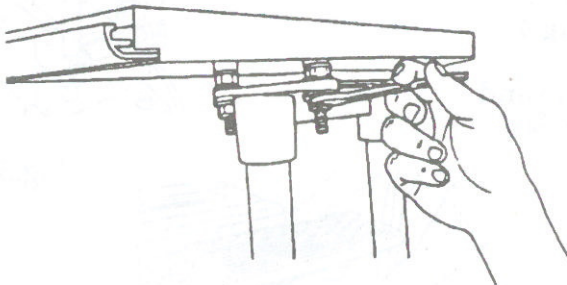

Fig.12
14. When the tables are aligned on three sides— infeed edge, infeed top surface, and outfeed top surface— securely tighten the bottom nut on each of the four studs. See Fig.12.